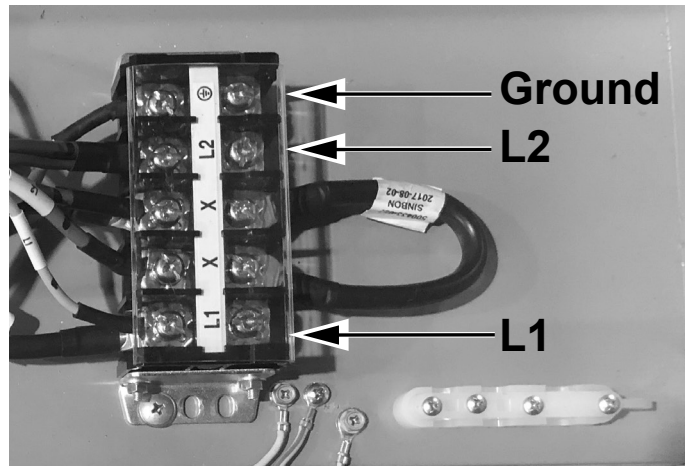

Figure 8. Terminal Block
5. Connect incoming hot wires from the power supply to the terminal block locations marked "L1" and "L2." See *Figure 8*.
6. Connect the ground wire from the power supply to the terminal marked with the ground symbol. See *Figure 8*.